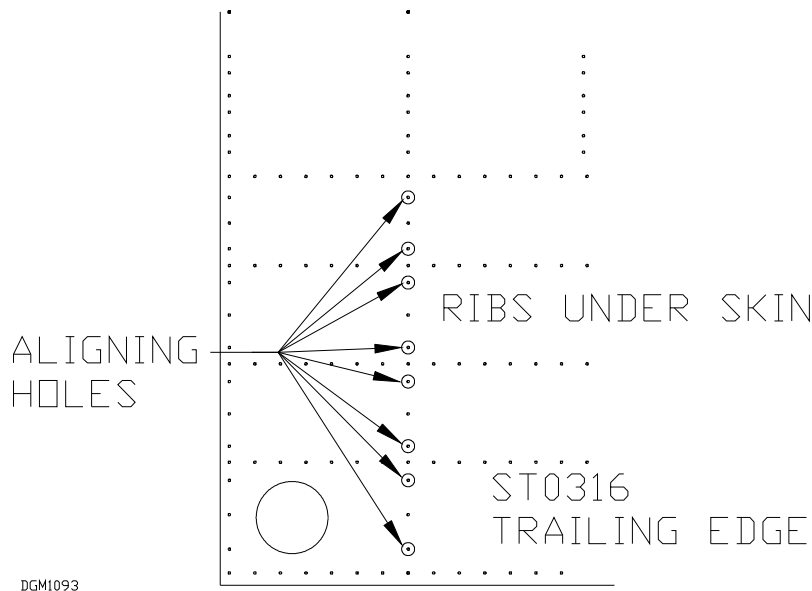

Figure 2.9.1
4. Also, align and Cleco the Doublers ST0315, 2 x ST0401 and 2 x ST0402 in place. Figure 2.9.1.